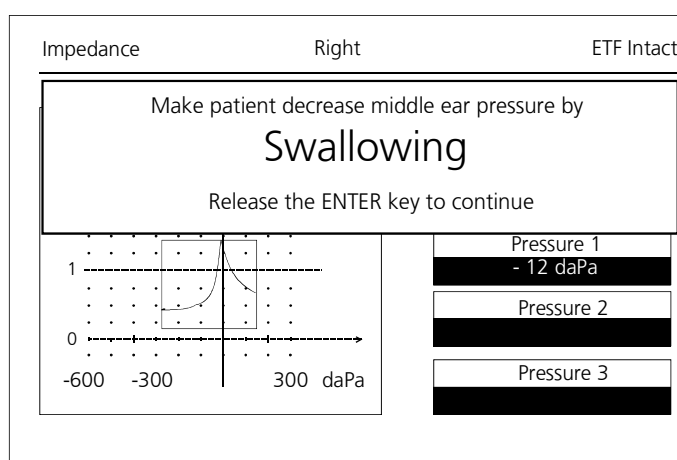

Figure 28
Now the text "Make the patient decrease middle ear pressure by Swallowing" occurs at the LCD display ⑤ (see figure 28).